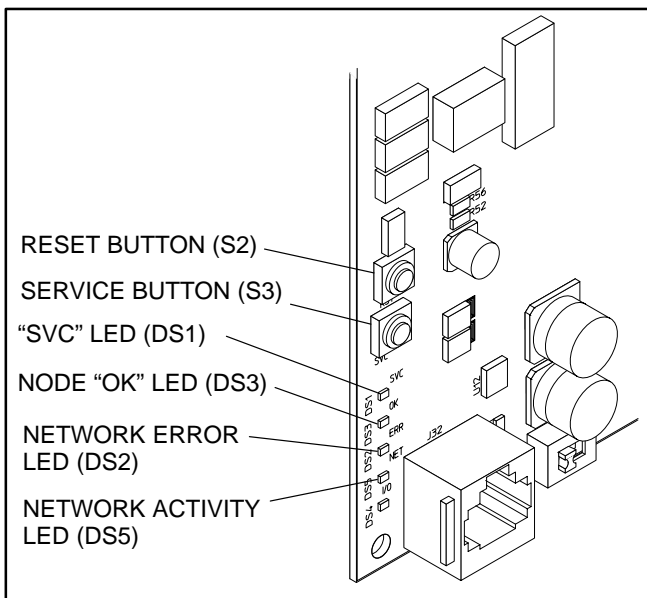

FIGURE 7. BUTTON AND LED LOCATIONS
After the device has been installed, the *Node Address* can be verified by counting the number of pulses of the “OK” LED (DS3). See Figure 7. Make sure each device has a unique node address.
5. Press and hold the *Service* button (S3) (see Figure 7) for approximately two seconds until the *Node "OK"* lamp (DS3) begins flashing.